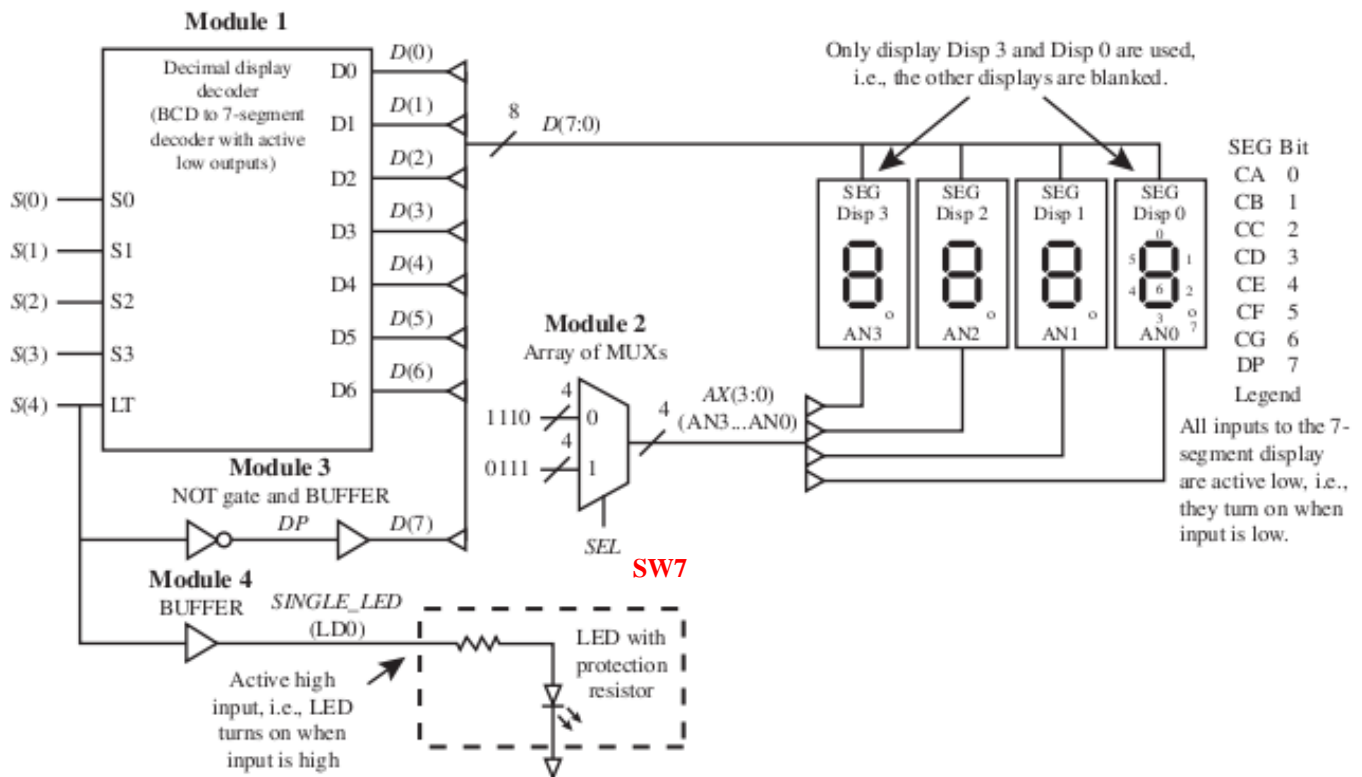

Figure 1. Annotated schematic for the custom display decoder system
Figure 1 shows annotated schematic for the keypad encoder system.
Notice in Figure 1 that the outputs of the keypad encoder are connected to the inputs of the decimal display decoder. The truth table for a decimal display decoder with active high outputs is shown in Table 2.
1. Create a new project and write complete VHDL code for Figure 1(a) for the keypad encoder (module 1). Simulate the design to verify that it follows the keypad encoder truth table. [Note: review previous labs on how to create VHDL Test Bench Program]. If the outputs of the keypad encoder do not follow the truth table, then you know that the VHDL code for module 1 has an error. You must find the error or errors and fix them.
2. Create a new project and write complete VHDL code for Figure 1(b) for the decimal display decoder (module 2). Simulate the design to verify that it follows the decimal display decoder truth table. If the outputs of the decimal display decoder do not follow the truth table, then you know that the VHDL code for module 2 has an error. You must find the error or errors and fix them.
Figure 1 shows an annotated schematic for the custom decimal display decoder system. Notice that the four slide switches SW3, SW2, SW1, and SW0 are used for the BCD inputs and one push-button switch BTN3 is used for the lamp test (LT) input. Notice that SW7 is used to switch between Disp 3 (display 3) and Disp 0 (display 0) of the 7-segment display.